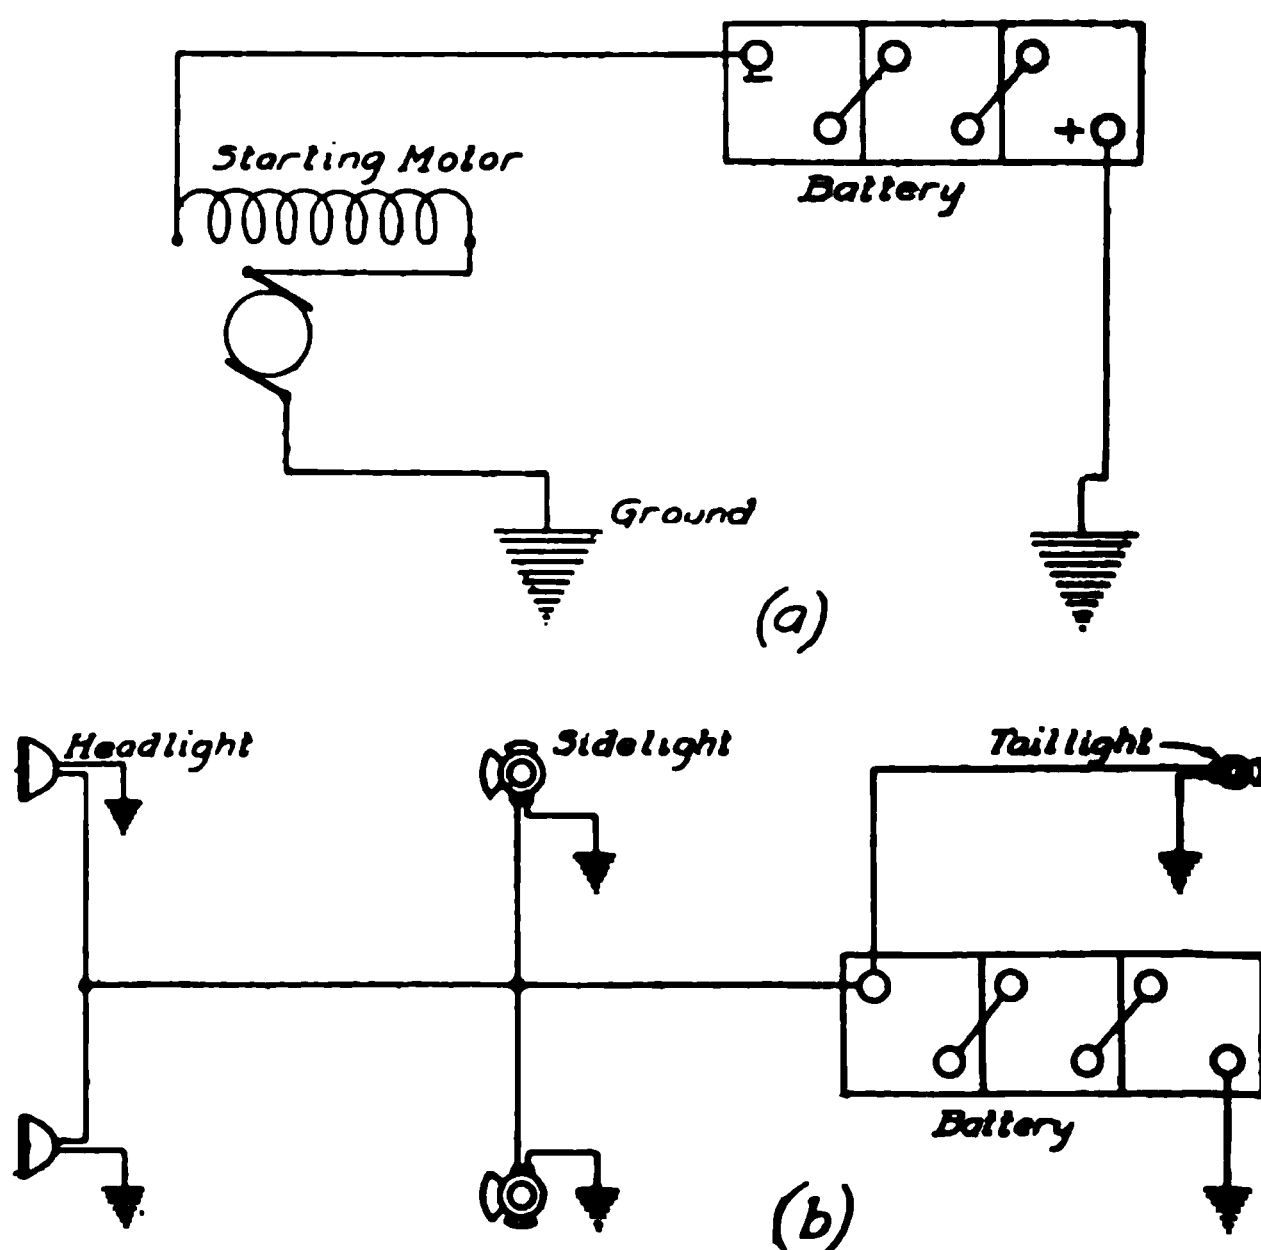

Fig. 1. Typical Starting-Lighting Wiring Diagrams. (a) Series Circuit of Starting Motor; (b) Multiple Circuit of Lamps
**Series Circuit.** The connections between a storage battery, switch, and starting motor, comprise the simplest form of circuit, in which the motor is said to be in series with the battery, and the cells of the battery are in series with one another. This is termed a series circuit and a break in it at any point opens the entire circuit. The starting motor, Fig. 1 (a), requires the entire output of the storage battery for its operation.
the circuit and to return on the negative side. In the case of a series circuit as described, the current flows through each piece of apparatus in turn; each receives all the current in the circuit and the potential is proportioned to the resistance of the apparatus in the circuit. For example, in the simple starter circuit referred to in Fig. 1 (a), the starting motor receives the entire output of the 3-cell battery at its full voltage of 6 volts, less the drop in voltage due to the resistance of the circuit. If there were two starting motors instead of one in the circuit, both in series, both would receive all the current but at only half the voltage.
*Multiple or Shunt Circuit.* As opposed to this, in a multiple circuit, Fig. 1 (b), in which every piece of apparatus is connected to both sides of the circuit "in parallel", each piece of apparatus in the circuit receives current at the same voltage but draws from the circuit the current determined by its resistance. The failure or drawal of any one or more instruments in a multiple or parallel circuit has no effect on those remaining. The lighting circuits in an automobile equipped with a 6-volt starting system are an example of this. Each lamp is designed to burn to its maximum illumination at 6 volts, but the 25-candle-power headlights take more current than the 5-candle-power side lights or the 2-candle-power taillight, owing to the difference in the size and resistance of